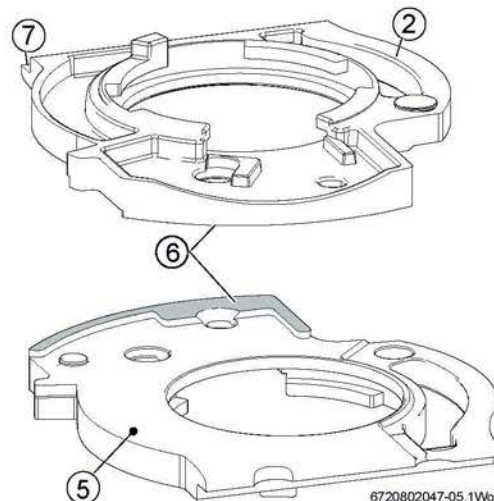

Fig. 86 Clamping plate detail
- ▶ Refer to figure 86 for detail of the clamping and mating surface [6]